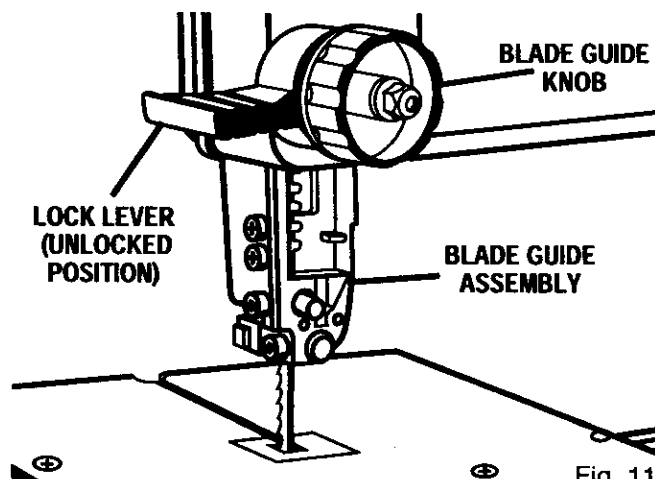

Fig. 11
See Figures 11 and 12.
- From the back of the saw, push the lock lever counterclockwise or to the left 1/4 turn to unlock the blade guide assembly. Use the blade guide knob to position the blade guide assembly about half way between the table and the frame. Return the lock lever to its upright locked position. See Figures 11 and 12.